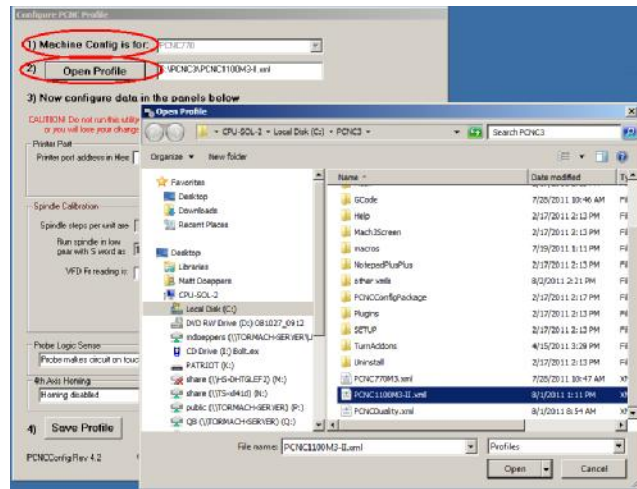

Figure 9.10 – Opening the profile
5. Open the PCNCConfig software program located under “Programs” on your “Start” menu. This will have been installed when you installed the control software. Click the “Open Profile” button and choose the machine profile you wish to modify (figure 9.10). The profile for the PCNC 1100 is: